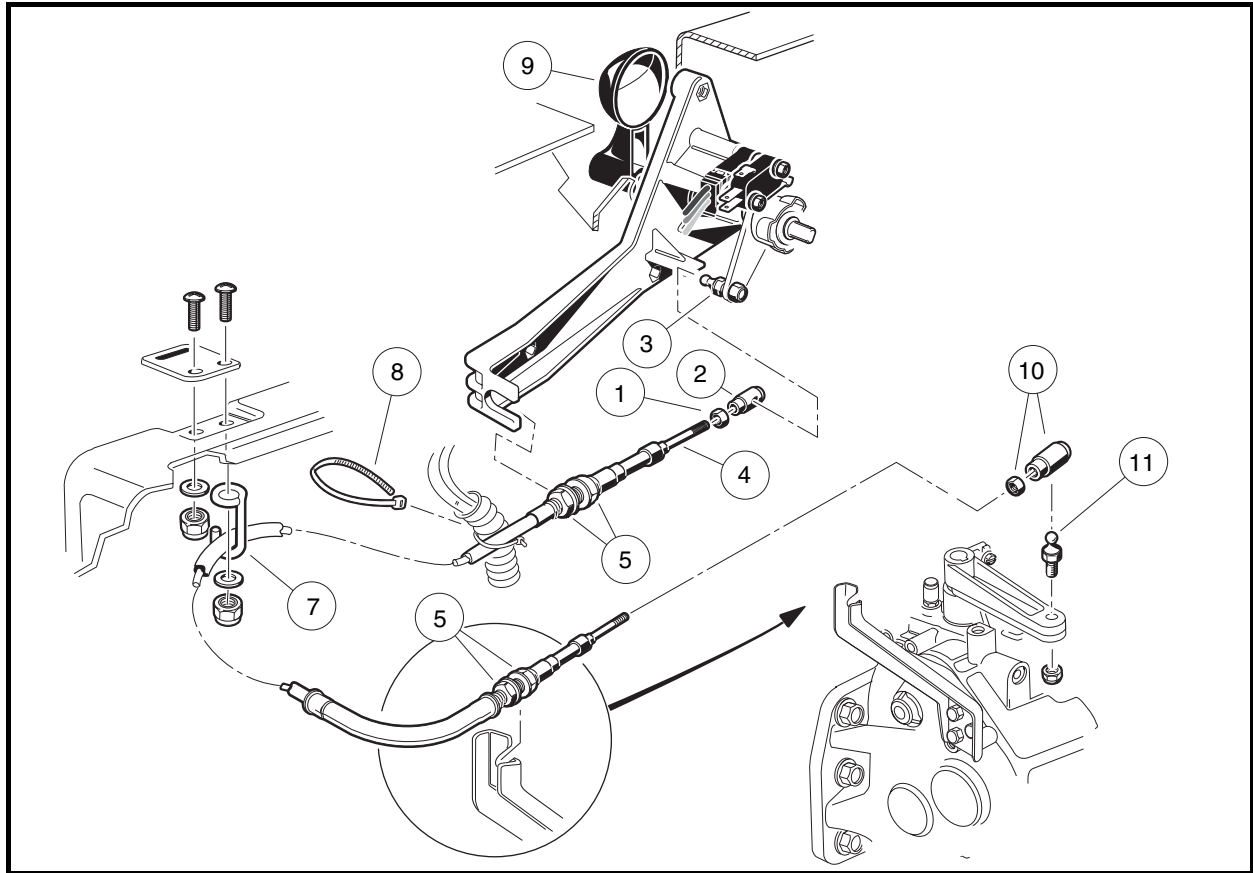
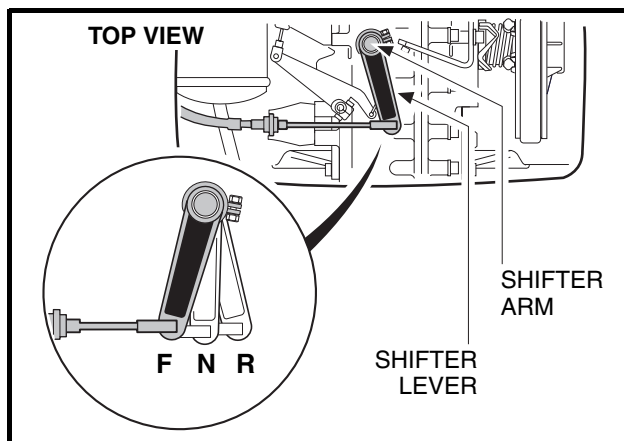

Figure 16-54 Forward/Reverse Shifter Cable
Figure 16-55 Forward/Reverse Positions
3. Remove the ball joint socket (2) from the Forward/Reverse shifter assembly ball stud (3) (**Figure 16-54, Page 16-21**).
4. Remove the ball joint socket (10) from the shifter arm ball stud (11) on the transaxle.
5. Loosen the retaining nuts (5) on both ends of the cable and remove the wire tie.
2. Secure the cable with a retaining nut (5) on each side of the shifter cable support bracket at the transaxle (**Figure 16-54, Page 16-21**). Tighten nuts to 22 ft-lb (29.8 N·m).
3. Secure the cable with a retaining nut (5) on each side of the shifter cable support bracket at the Forward/Reverse assembly. Tighten nuts to 43 in-lb (4.9 N·m).
5. Install the ball joint socket (2) on the Forward/Reverse shifter assembly ball stud (3) (**Figure 16-54, Page 16-21**).
6. Attach Forward/Reverse cable at cable retainer (7).
7. Install wire tie (8) to secure wire harness to cable at the support bracket near the Forward/Reverse shifter assembly. **See following WARNING.**
With the shifter lever of the unitized transaxle in the NEUTRAL position (**Figure 16-54, Page 16-21**), the Forward/Reverse handle (9) should be straight up. For minor adjustments, the nut (1) may be loosened and the ball joint socket (2) rotated to get the proper adjustment (**Figure 16-54, Page 16-21**). **See following CAUTION.**
For major adjustments, the cable retaining nuts (5) must be loosened and adjusted. When the cable is properly adjusted, with the Forward/Reverse handle (9) (**Figure 16-54, Page 16-21**) in the NEUTRAL position, the shift lever of the transaxle will also be in the NEUTRAL position (**Figure 16-55, Page 16-21**). Retighten nuts at the transaxle to 22 ft-lb (29.8 N·m); retighten nuts at the Forward/Reverse assembly to 43 in-lb (4.9 N·m).